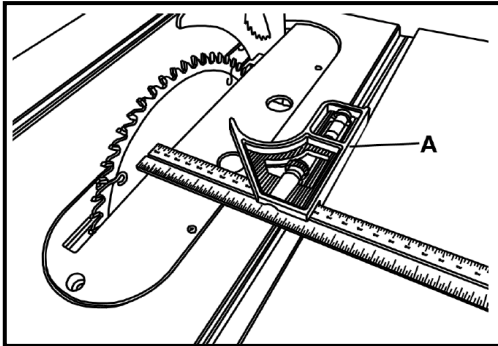

Figure 30: Example Of Adjustable Square
2. Use an adjustable square to measure the distance from the table T-slot to a carbide tip on the blade, as shown in Figure 30. Make sure that the face of the adjustable square is even along the T-slot.